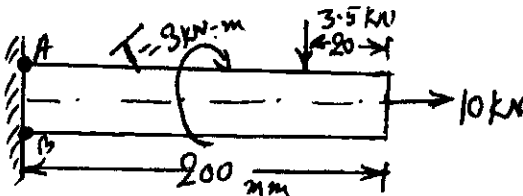

Fig.Q1(c)
c. A machine member 50 mm diameter and 200 mm long can be treated as a cantilever for stress analysis. The loading of the member is shown in Fig.Q1(c). Determine the maximum and minimum normal stress and maximum shear stress at critically stressed point "A" and "B". (12 Marks)